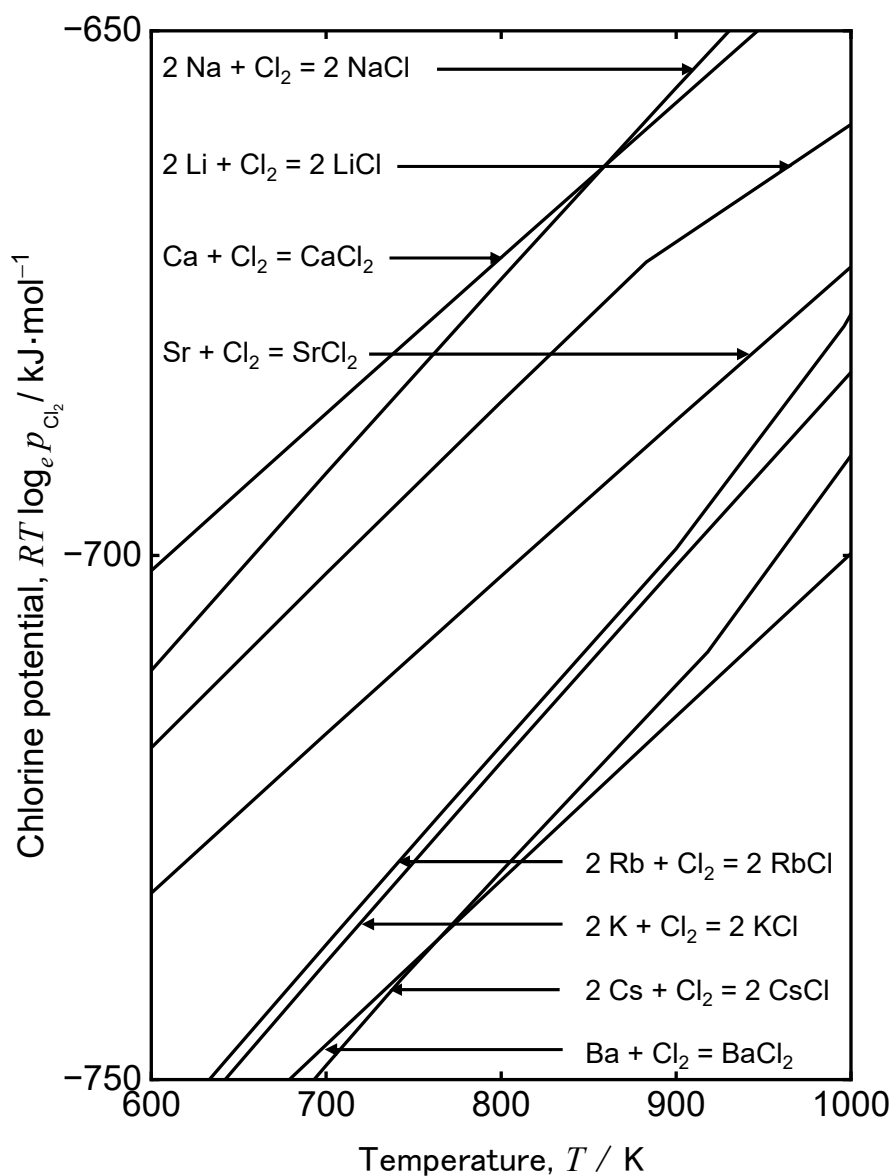

Figure 1
1. Answer the following questions based on Figure 1 showing the temperature dependences of the standard Gibbs energy changes for the formation reactions of chlorides of lithium (Li), sodium (Na), potassium (K), rubidium (Rb), cesium (Cs), calcium (Ca), barium (Ba), and strontium (Sr) at 1 atm of pressure. p_{Cl_2} is chlorine partial pressure (atm). Use the gas constant $R = 8.3 \text{ J} \cdot \text{mol}^{-1} \cdot \text{K}^{-1}$ if necessary.